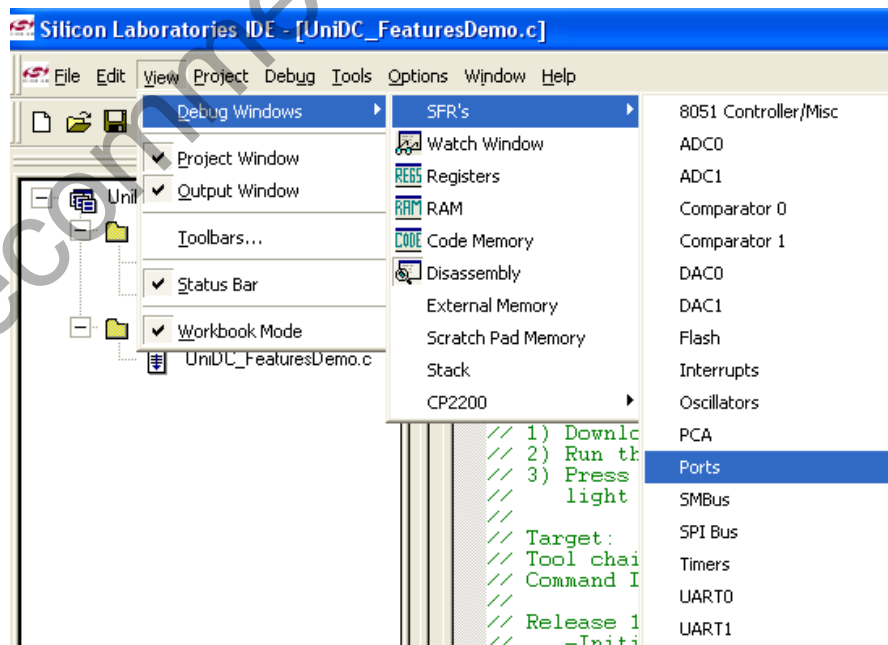

Figure 9. Ports Debug Window
1. Open the Ports Debug Window from the **View → Debug Windows → SFR's → Ports** menu option shown in Figure 9. The Ports Debug window appears on the right-hand side of the IDE. In this window, the P74OUT register is shown. This register sets the output mode of ports 4 through 7.